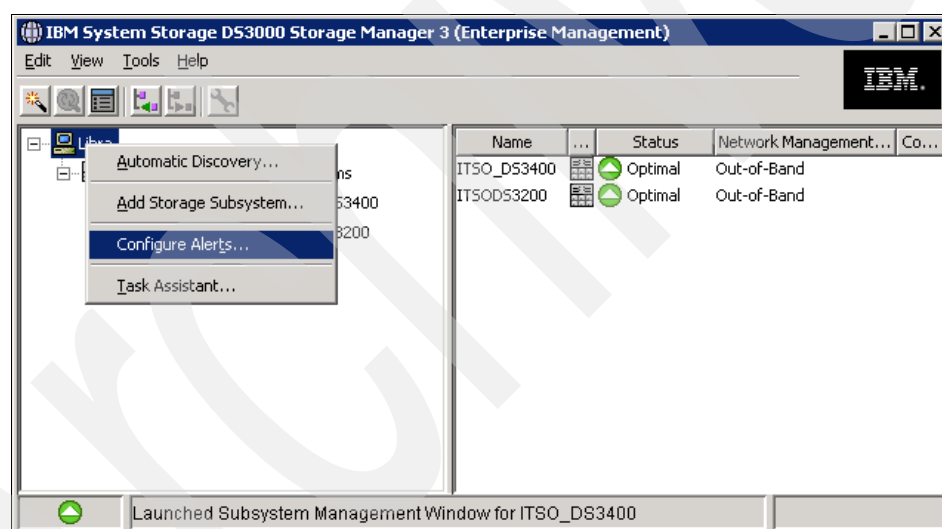

Figure 8-9 Configure Alerts for all systems
- To configure alerts for all storage systems listed in the Enterprise Management window, right-click your local management system in the Enterprise Management window (at the top of the tree) and choose **Configure Alerts**, as shown in Figure 8-9.